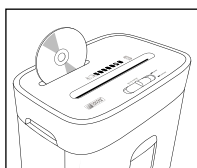

Fig. 9
Insert the CD from above into the middle of the CD/credit card cutter opening ② (see fig. 9). You can only shred one CD at a time.